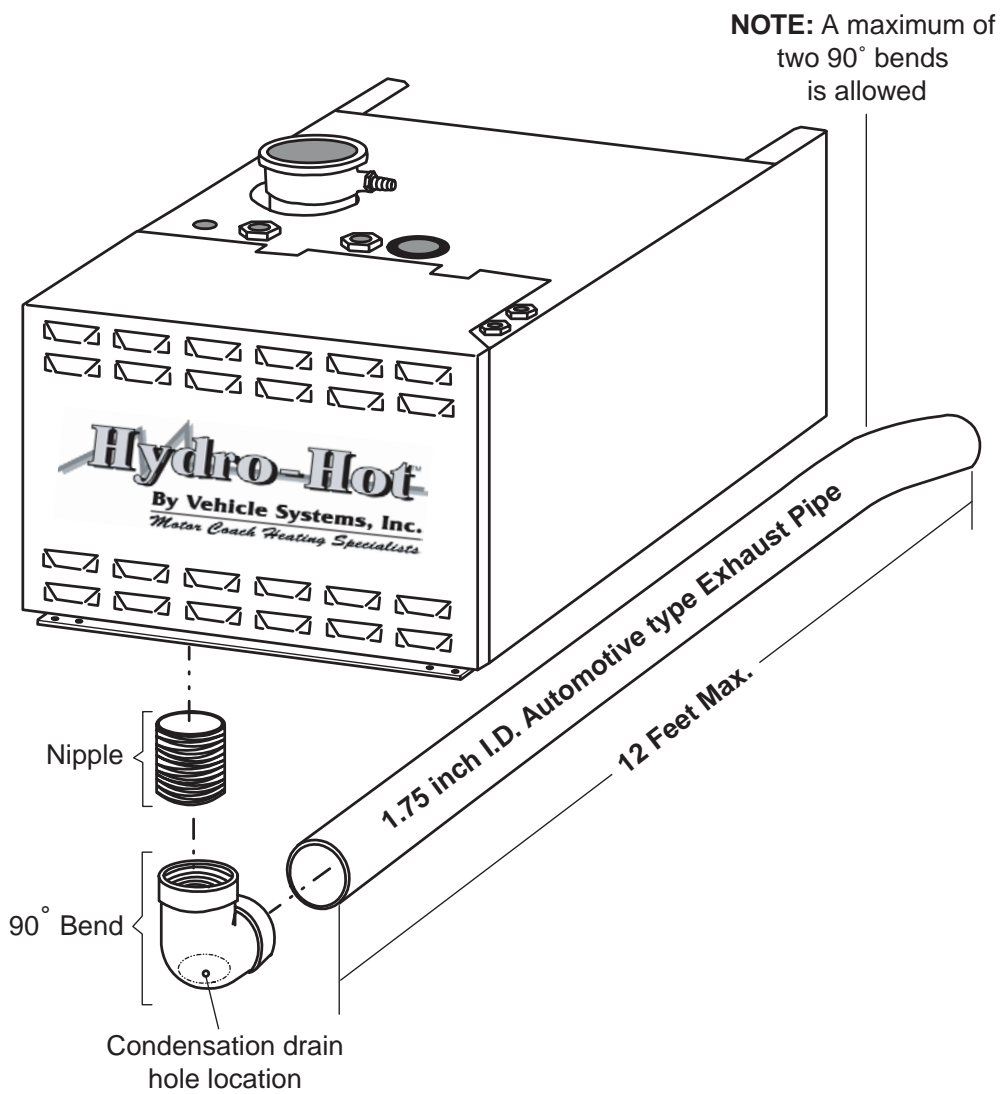

Figure 28
- D. From the Hydro-Hot's 1-1/2 in. (F)NPT Exhaust Port, use 1-3/4 in. I.D. Exhaust Pipe, see Figure 28.
- E. A condensation drain must be provided in the exhaust system. This can be accomplished by drilling a small hole (approximately 1/8" diameter) at the Exhaust Pipe's lowest point or by simply sloping the Exhaust Pipe away from the Hydro-Hot, see Figure 28.